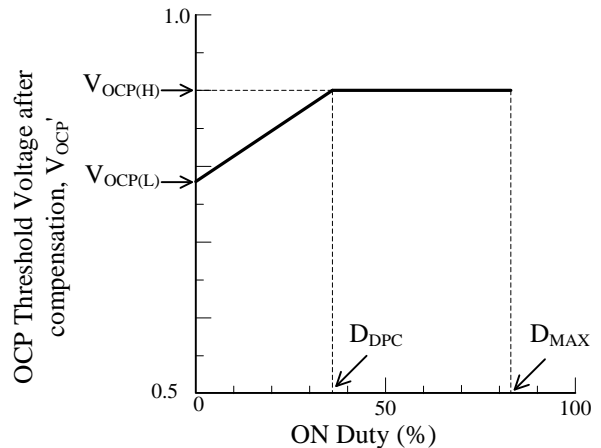

Figure 9-15. Relationship between ON Duty and Drain Current Limit after Compensation
The Input Compensation Function is the function of correction of OCP threshold voltage depending with AC input voltage, as shown in Figure 9-15. When AC input voltage is low (ON Duty is broad), the OCP threshold voltage is controlled to become high. The difference of peak drain current become small compared with the case where the AC input voltage is high (ON Duty is narrow). The compensation signal depends on ON Duty. The relation between the ON Duty and the OCP threshold voltage after compensation V_{OCP}' is expressed as Equation (6). When ON Duty is broader than 36 %, the V_{OCP}' becomes a constant value $V_{OCP(H)} = 0.9\text{ V}$